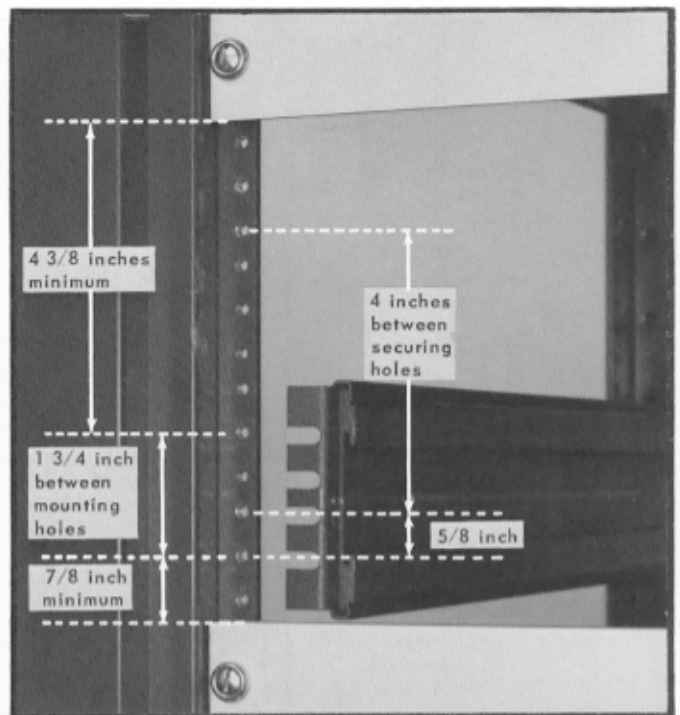

Fig. 9-7. Vertical mounting position for front end of slide-out tracks.
1. Referring to Fig. 9-7, select the proper front-rail mounting holes for the stationary sections.